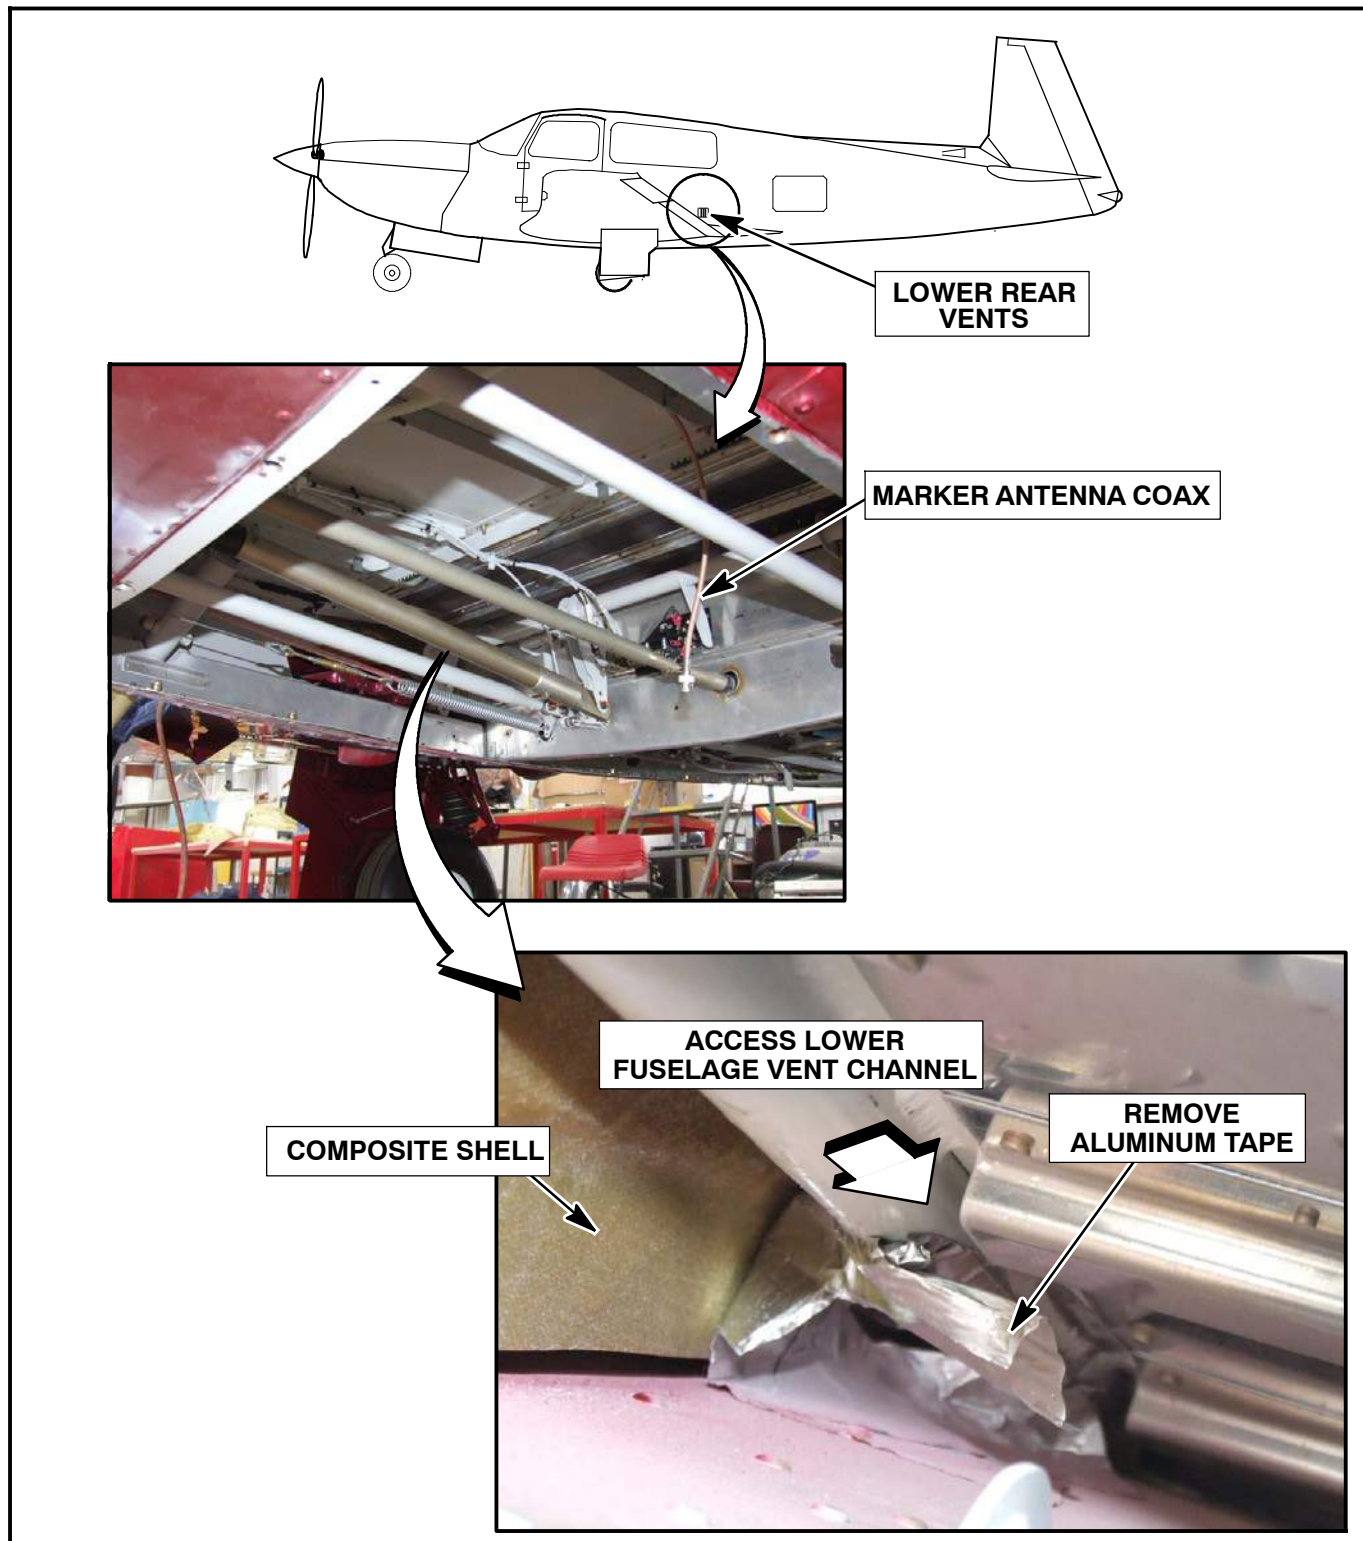

Figure SBM20-333-1 - LOWER FUSELAGE - REMOVING ALUMINUM TAPE
- 1.2. Loosen Aft belly panel camlocs, lower belly panel enough to disconnect marker antenna coax cable, and remove Aft belly panel. This will allow access to lower vent holes in lower fuselage channel, see Figure SBM20-333-1.
- 1.3. Remove any tape covering lower fuselage channel, if needed use long needle nose pliers, see Figure SBM20-333-1.